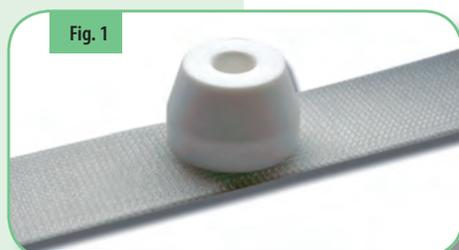
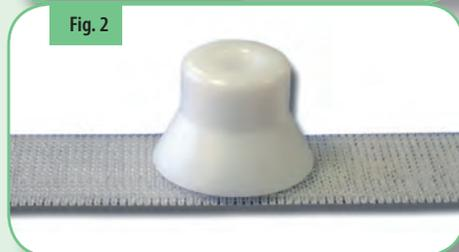

Fig. 1
Fig. 2
Since 1991, Airtech Europe manufactures and supply vacuum bagging, composite tooling and resin infusion processing materials. It has been the innovator and up to now continuously develop innovative products and services like the resin infusion connectors with a flat base VAC-RIC LT (Fig. 1) and VAC-RIC HT (Fig. 2) provide efficient through bag connection for vacuum manifold and resin feed lines for low (LT) and high (HT) temperature resin infusion applications. These products have been designed to be placed on the top of the Resintrak, Vactrak or Dahlpac MC79 vacuum breather pad.
Ha avuto un ruolo di grande innovazione e continua a sviluppare nuovi prodotti, ad esempio i connettori per infusione a base piatta VAC-RIC LT (fig. 1) e VAC-RIC HT (fig. 2), che permettono una perfetta connessione attraverso il sacco, per il collettore del vuoto e le linee di alimentazione della resina per infusioni a basse (LT) e alte (HT) temperature.